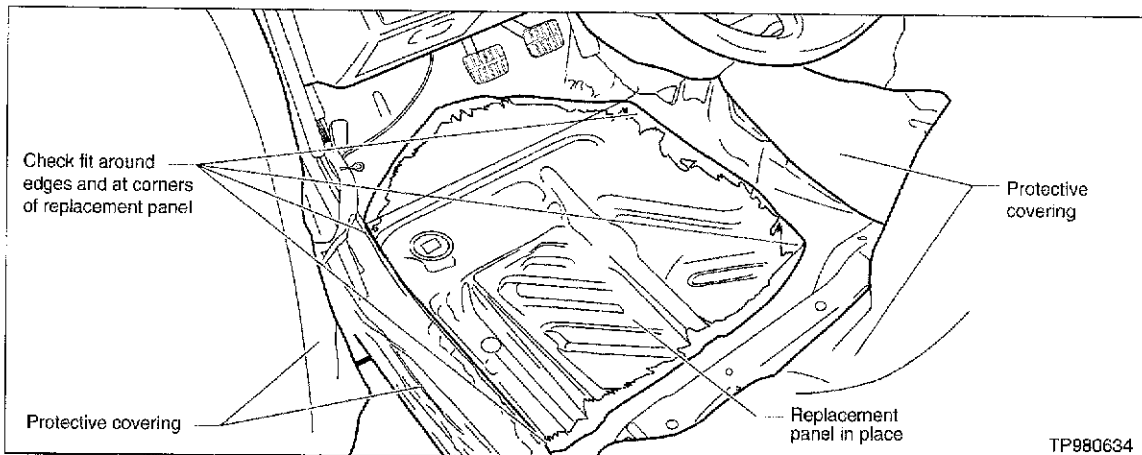

Figure 4
14. Check the fit of the new part carefully inside the vehicle (see Figure 4). Make sure the edges of the new panel mate to the metal of the original body panels with a tight, solid fit and the frame bolt hole aligns with the hole in the body mount flange.